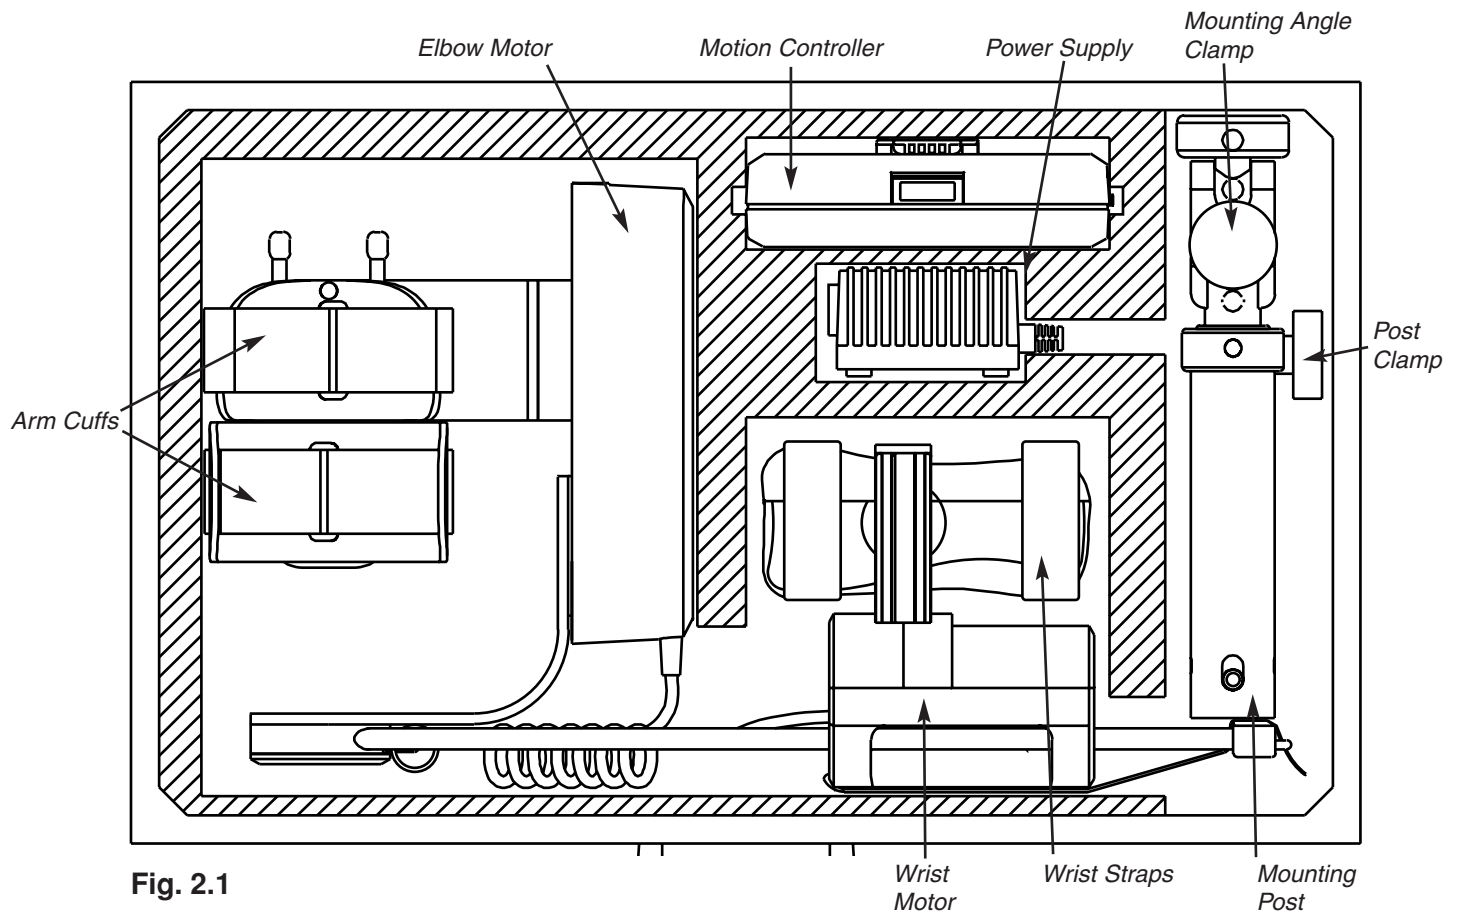

Fig. 2.1
2.1 The device is stored and transported in a custom carrying case. (See Fig. 2.1)